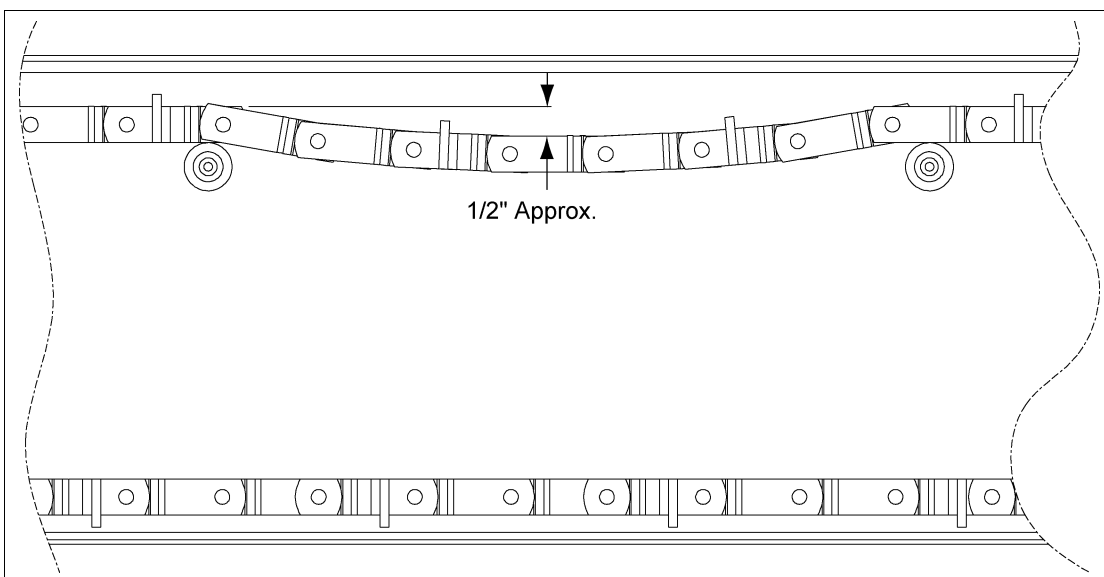

Figure 6J
Tighten the drag chain assembly using the take-up screws located on each side of the tail section or on the take-up head. On conveyors with roller returns, the chain is at the proper tension when a maximum of 1/2" deflection occurs at a point midway between the rollers. (See Figure 6J.) On conveyors with slide rail returns, the chain should be able to be lifted slightly when sufficiently tightened. After the chain is tight, check that the head and tail shafts are square to the box sides. If the shafts are not square, loosen the tighter of the two (2) adjuster screws until the shafts are square. Lock the adjuster screws by tightening the hex nuts against the cross-ways "C" channel.